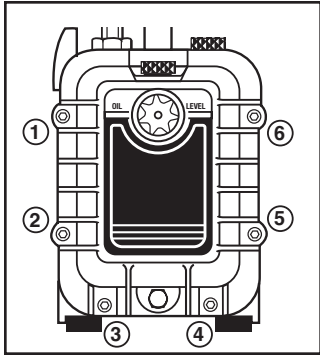
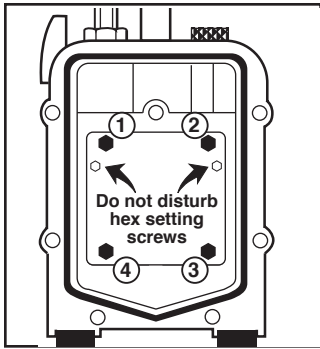
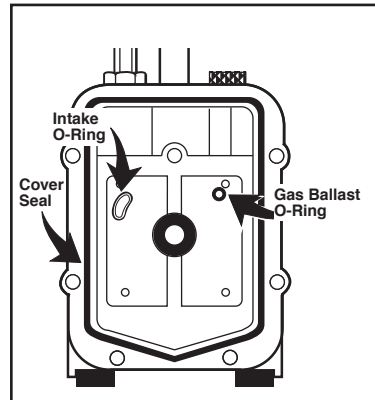

FIG. 4
FIG. 5
FIG. 8
If old cartridge is frozen, i.e. coupler will not turn, remove oil cover (FIG. 4) and four (4) cartridge bolts (FIG. 5). By turning cartridge, coupler will rotate into position.
1. Using 3/16" Allen wrench remove 6 socket head cap screws from oil cover. (FIG. 4)
1. Remove 4 cartridge screws (7/16" or 3/8" wrench) (FIG. 5). Discard old gasket seal and 2 O-rings along with cartridge and bolts.
4. Insert intake and gas ballast O-rings in trap (FIG. 8). Gasket replaced after cartridge is installed.
3. Replace gasket (FIG. 8) and re-install oil cover to trap. (FIG. 4)